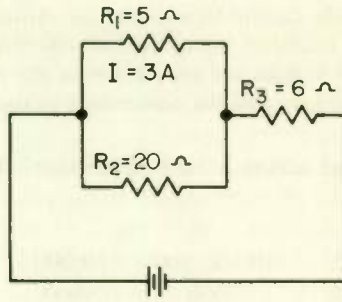

Fig. 37
6. In Fig. 37 the voltage across R_1 is (a) _____ volts. Since R_1 and R_2 are in parallel, the voltage across R_2 is (b) _____ volts. The current through R_2 is (c) _____ amperes, and the current through R_3 is (d) _____ amperes. Power dissipated by R_1 is (e) _____ watts; that by R_2 is (f) _____ watts; and that by R_3 is (g) _____ watts. Voltage supplied by the battery is (h) _____ volts. Power supplied by the battery is (i) _____ watts.